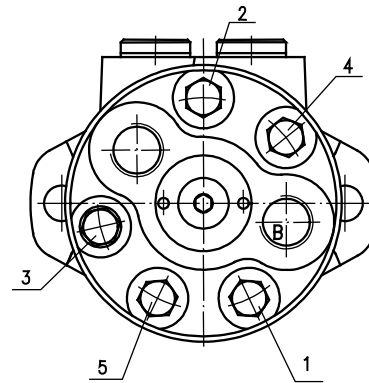

Fig.10A
22. For rear ported motors only: Install washer (O-ring for MLHR...7,8) on plug Tighten plug with S10 Allen wrench with torque 3,0÷3,5 daNm. Make shore that End cover is orientated as shown on Figure 10A!